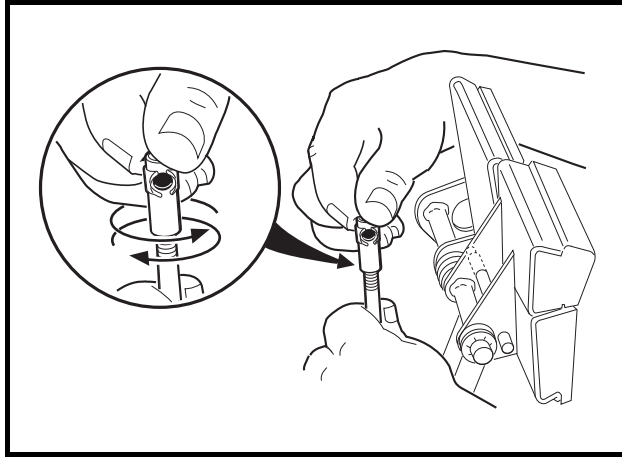

Figure 5-16 Brake Rod Adjustment
- 3.6. If ratchet/pawl engagement must be adjusted, disconnect the ball joint at the top of the brake rod and rotate the ball joint sleeve clockwise to increase engagement or counterclockwise to decrease engagement. Reconnect ball joint (**Figure 5-16, Page 5-14**).